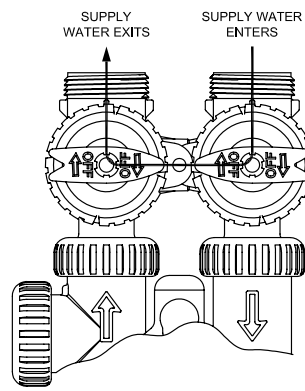
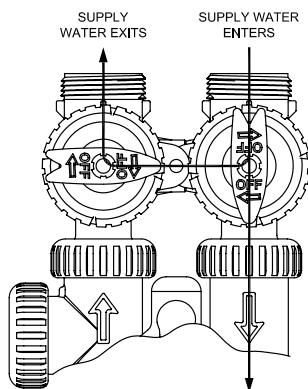

Figure 3
Figure 4
2. Place the bypass valve in the bypass position. (See figure 3 page 5) Turn on the main water supply. Open a cold soft water faucet to flush the piping of any air and/or foreign material. Run until the water is clear.
6. Push REGEN button and hold it down for 3 seconds. The system will advance to the “First” position. (Note: Depending on how the system is programmed it could read backwash, rinse, brine or fill). Keep pushing REGEN button until “Rinse” shows in the lower right hand corner of display. Slowly place the by-pass into the “diagnostic mode” (see fig 4, page 5). Run water to the drain until it runs clear. Return the by-pass valve to the by-pass position (fig 3, page 5). Push REGEN button until “Time” appears in upper left hand corner of display.